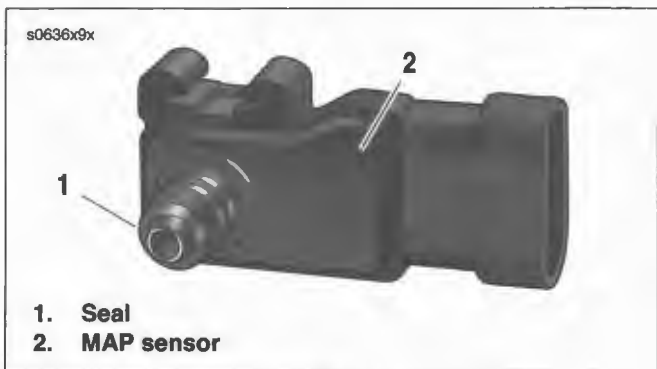

Figure 4-28. MAP Sensor
See Figure 4-28. If the original sensor is re-installed, the seal (1) must be inspected. Seals not in good condition could cause vacuum leaks. Install new seal if necessary